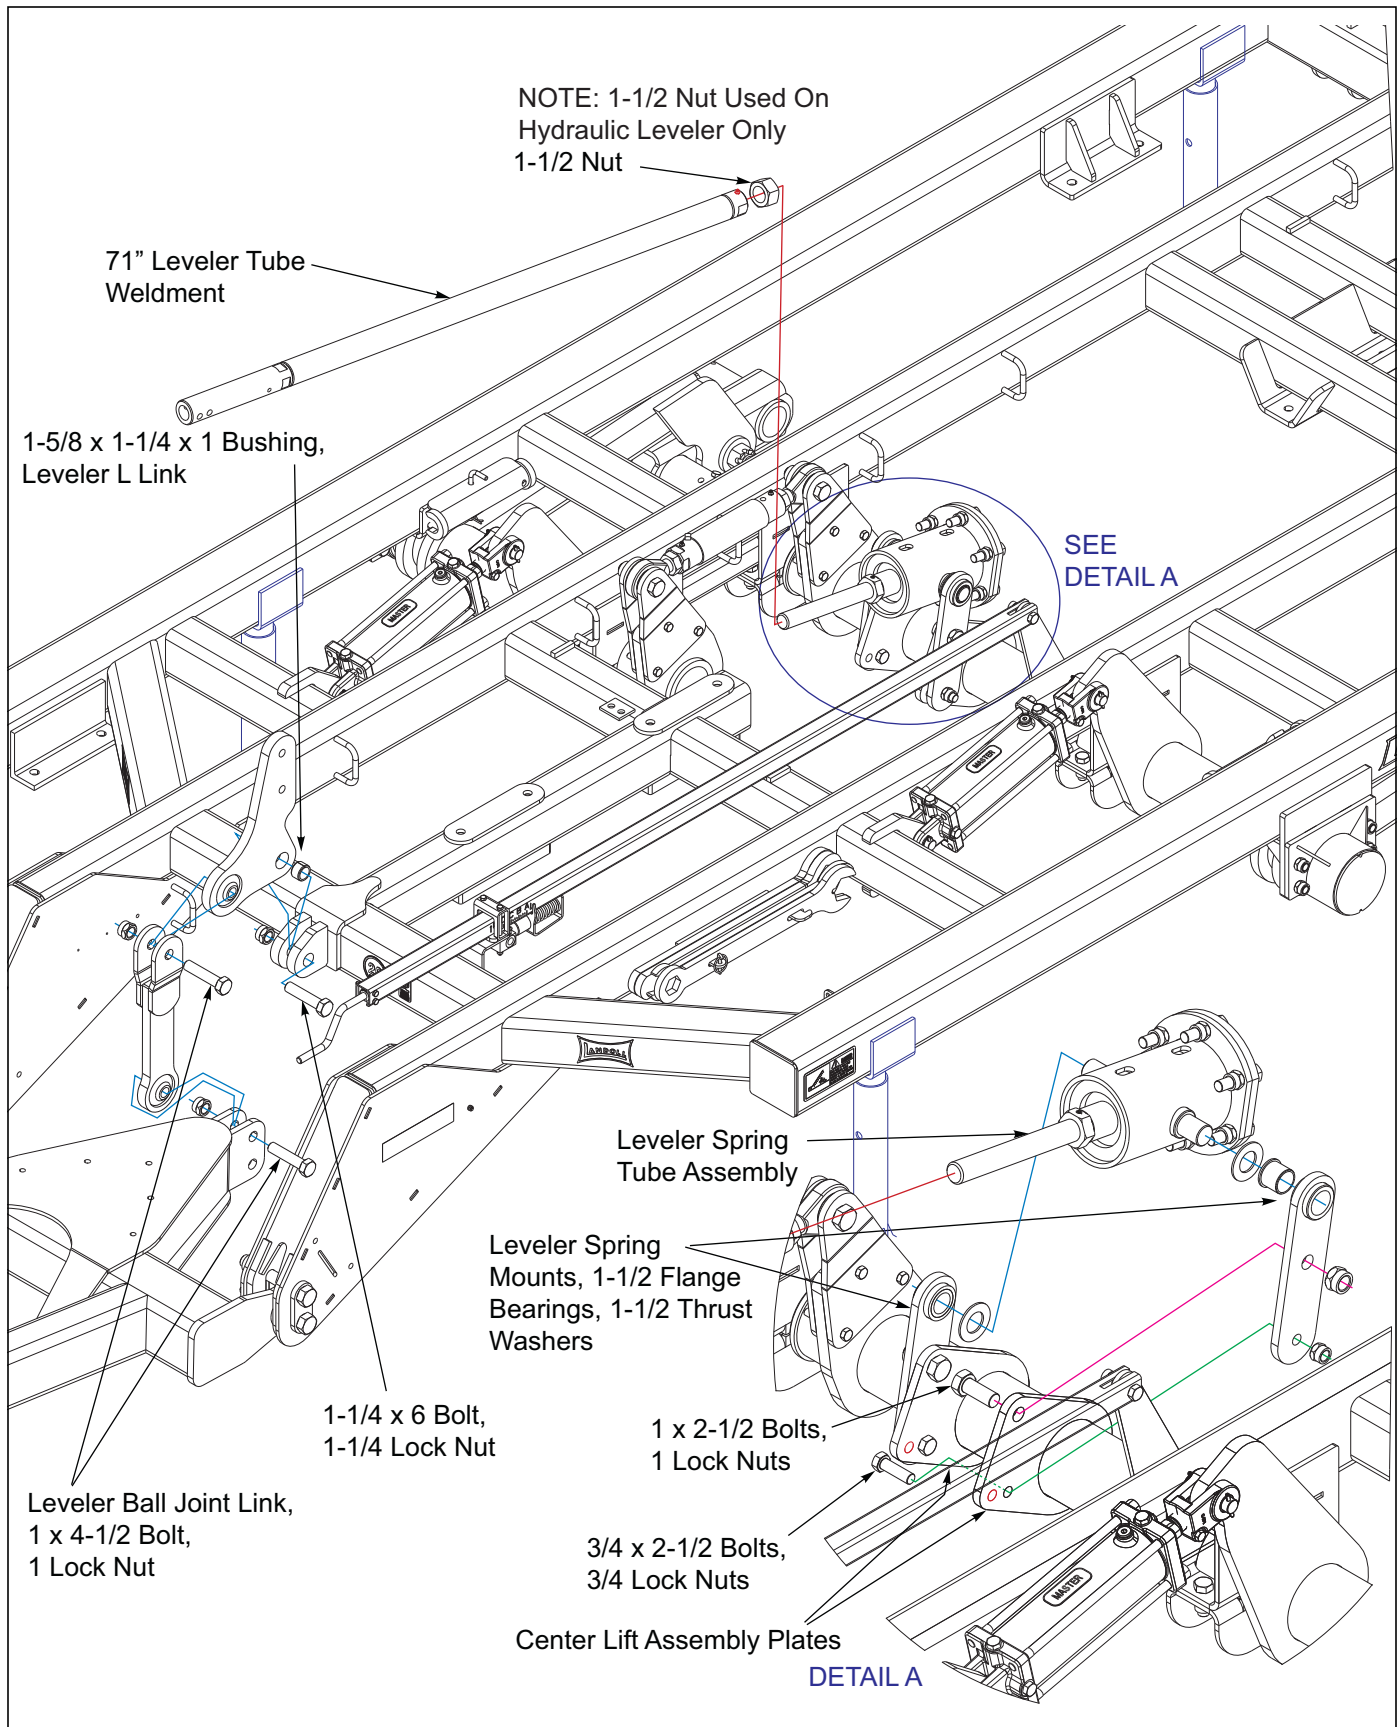

Figure 3-2: Leveler Assembly Installation (Before 01-01-2024)
See Figure 3-2.
1. Using the manual leveler, screw the 71" leveler tube onto the leveler screw assembly See Figure 3-2. Initially leave approximately 1" of threads visible, further adjustment may be required. Rotate the tube so that the zerk hole in the threaded end is pointing upward.